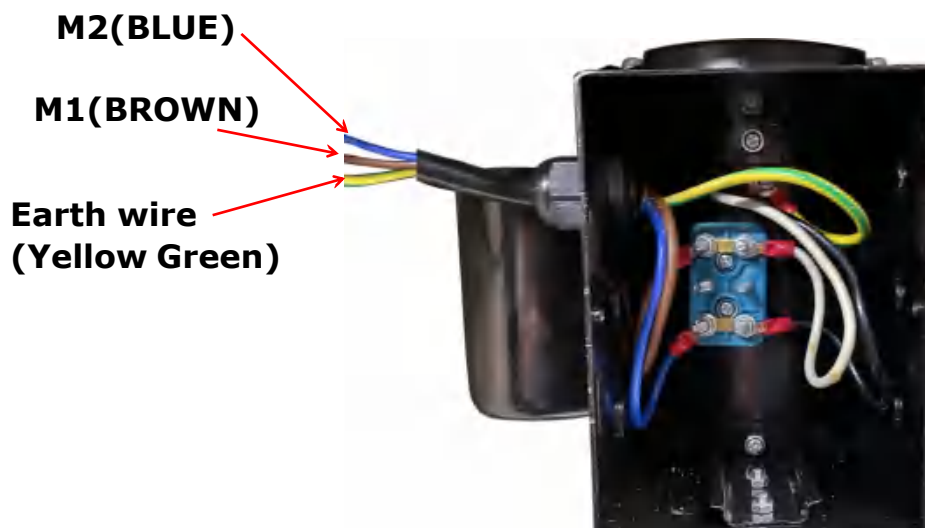

Fig. 35
3.2 220V Wire connection of hydraulic power unit (See Fig. 35).